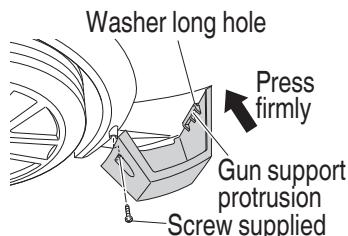

Fig. 3
7. Attaching the gun support (Fig. 3)